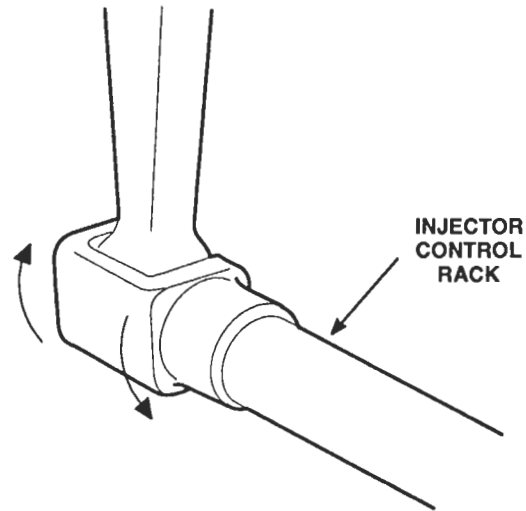

Figure 3. Checking Rotating Movement of Injector Control Rack
5. To be sure the control lever is properly adjusted, hold the speed control lever in the maximum speed position and press down on the injector rack with a screwdriver or finger tip and note "rotating" movement of the injector control rack when the speed control lever is in the maximum speed position (Figure 3.)